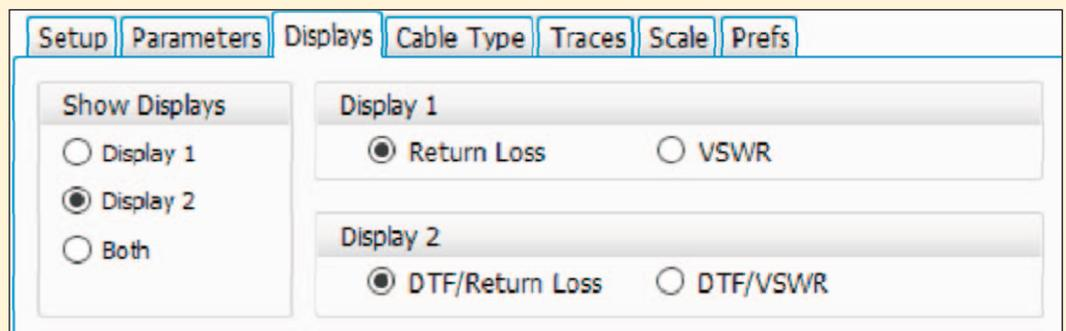

Figure 5: DTF setup in Signal/VU-PC
5. Click on the Displays tab, select DTF/Return Loss for Display 2, and then select Display 2 in the Show Displays panel to view the DTF/Return Loss display only as shown in Figure 5.